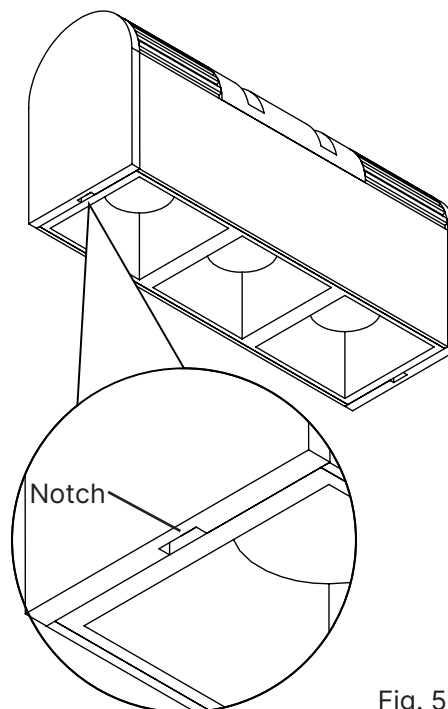

Fig. 5
2. Snap **Trim Subassembly** into **Light Engine**, press up firmly on the bottom of the Trim Subassembly, while pressing down on the top of the Light Engine, until the Trim Subassembly clicks into place (Fig. 5). **Note:** Use the **Notch** on the enclosure to help detach the trim.